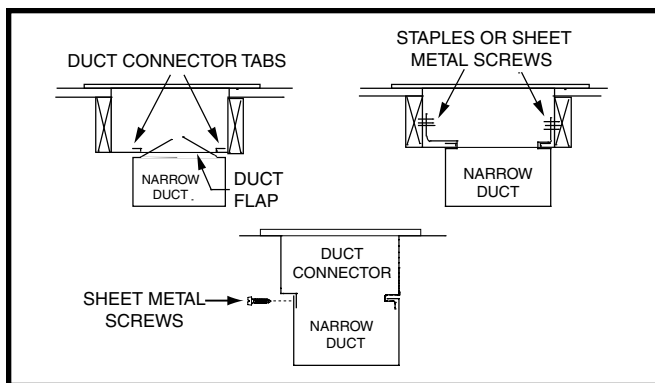

Figure 11. Narrow Ducts
4. Bend the tabs on the bottom of the duct connector upwards and as tight as possible against the supply air duct. See Figure 11 (page 11).